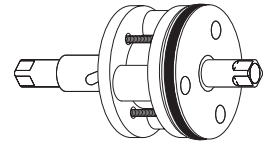

Figure 7:
2. Screw the slotted-head screws into the O-ring plate, and push the drive shaft into the O-ring plate as far as it will go. **(Figure 7)**